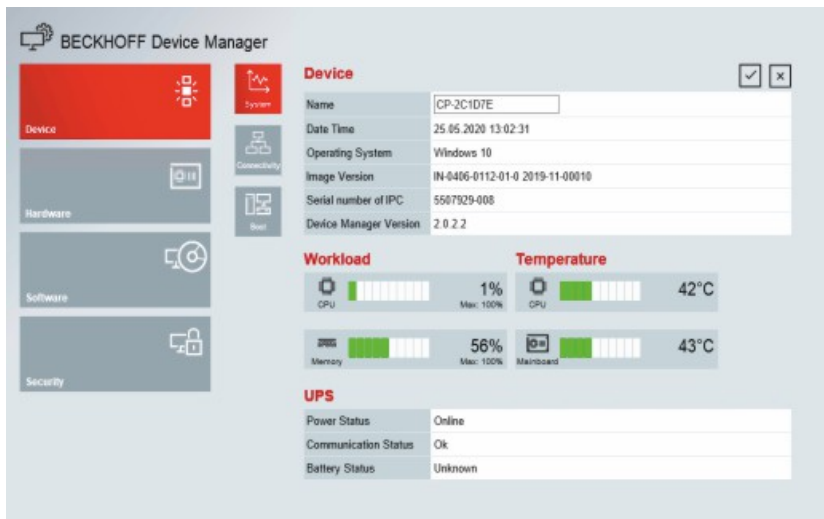

Fig. 20: Beckhoff Device Manager – Start page
2. Lift the PC far enough so that the fastening screws slip into the keyholes (see fig. 20).